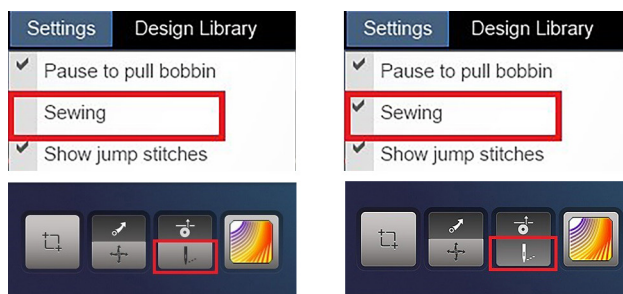

Fig. 93
4. Sometimes it is difficult to know where Q-matic is within a design during a thread break message because of back-track stitching within the design. In this case, back the Sewhead up about 5" behind the thread-break/bobbin-empty issue and turn Sewing to Off either in the Settings dropdown on the Menu Bar or via the Sewing On/Off icon in the Control Center (Fig. 93).